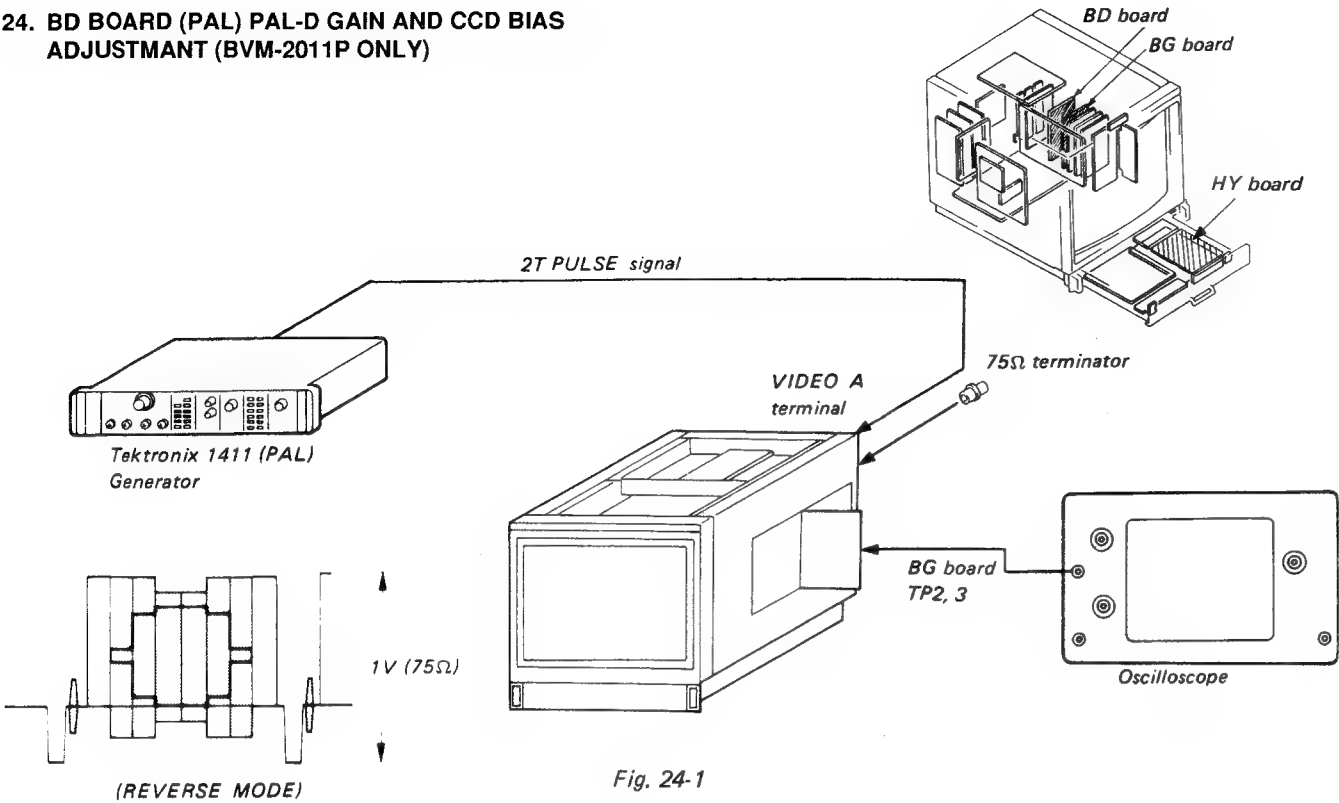

Fig. 24-1
1. Complete the connection as shown in Fig. 24-1.